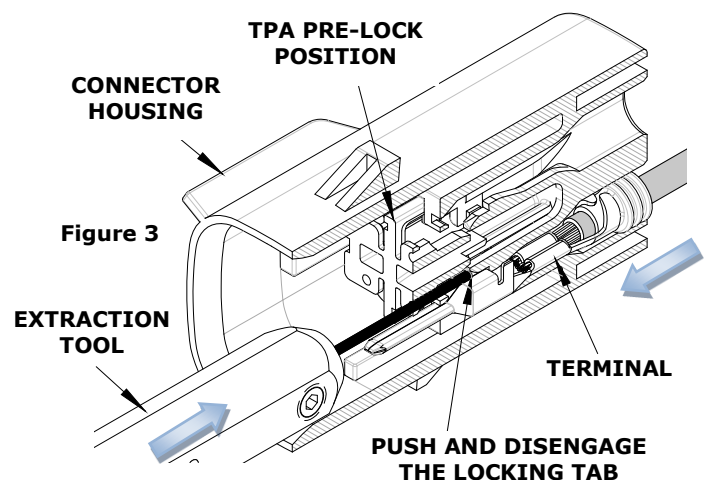

Figure 3
1. Push the terminal forward in the arrow direction before using the extraction tool. See Figure 3.